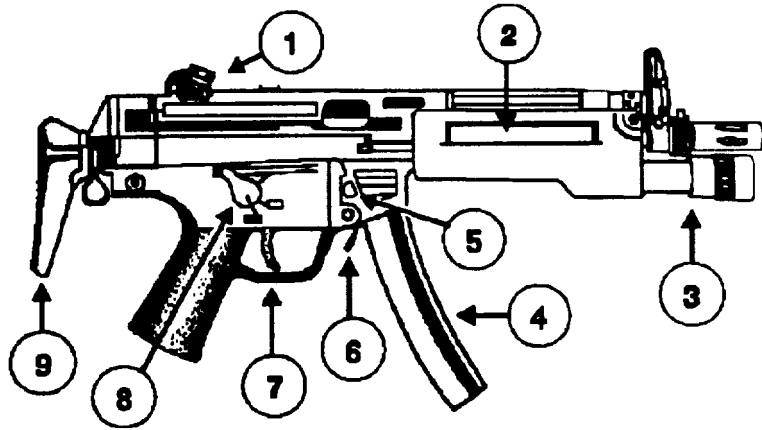

Figure 1-2. MP5N Submachine Gun - Right Side
b. The right side of the MP5N, Figure 1-2, reveals rear sight (1), pressure switch for tactical light (2), tactical light (3), magazine (4), magazine release button (5), magazine release lever (6), trigger (7), selector lever (8), and retractable butt stock (9).